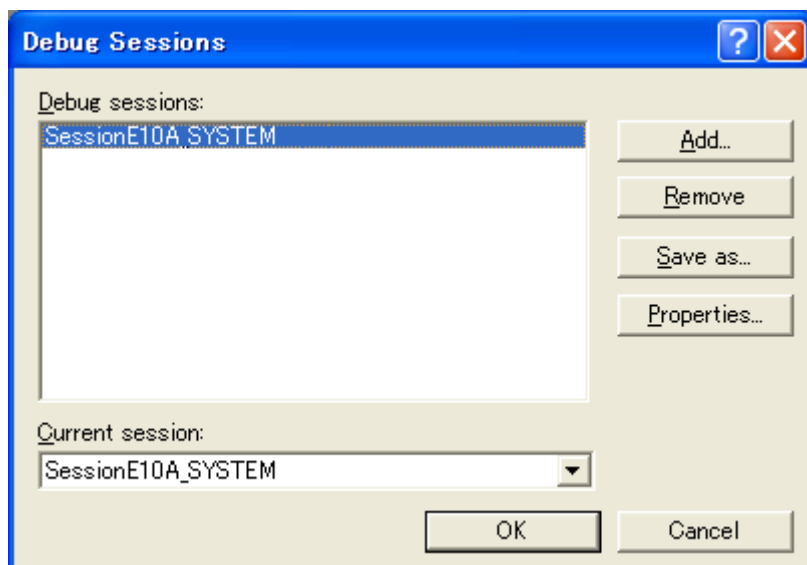

Figure 4.28 [Debug Sessions] Dialog Box
- Select [Debug -> Debug Sessions...]. This will open the [Debug Sessions] dialog box (figure 4.28).
1. Select [Debug -> Debug Sessions...] to display the [Debug Sessions] dialog box (figure 4.28).